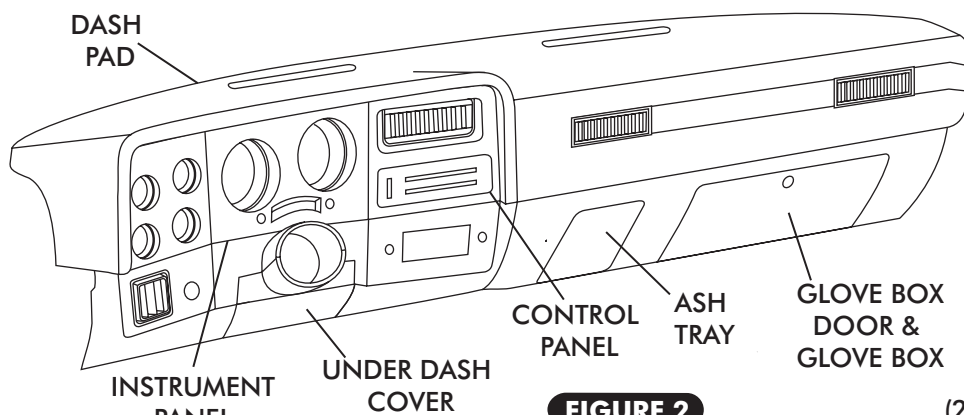

FIGURE 2
- ☐ GLOVE BOX DOOR AND GLOVE BOX ASSEMBLY (RETAIN) (SEE FIGURE 2, BELOW).
- ☐ UNDER DASH STEERING COLUMN COVER (RETAIN) (SEE FIGURE 2).
- ☐ DASH PAD (RETAIN) (SEE FIGURE 2).